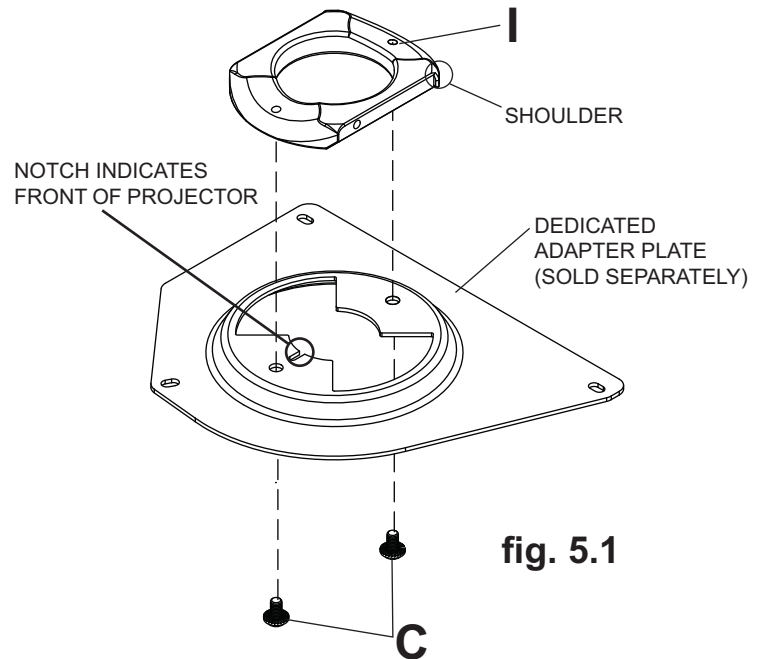

fig. 5.1
NOTE: The projector dedicated adapter plate you are installing may differ in appearance from the sample illustrated in figure 5.1.
Align shoulder of connection block (I) opposite notch of adapter plate. Attach dedicated adapter plate to connection block (I) using two #10-32 x 3/8" serrated washer head socket pin screws (C) as shown in figure 5.1.